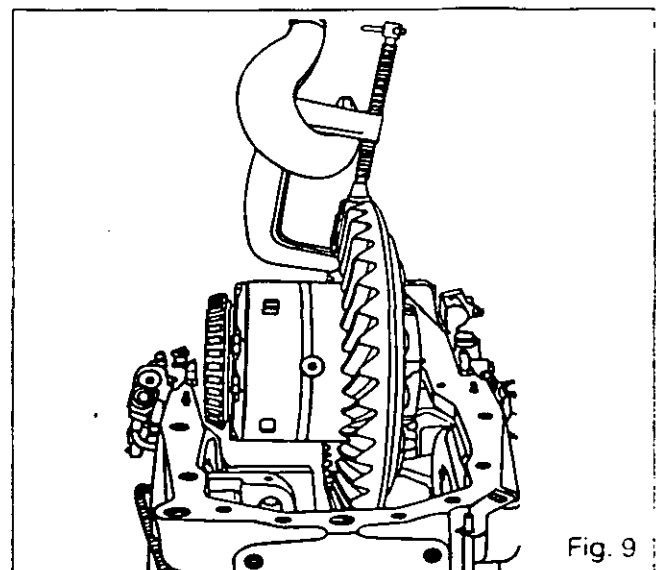

Fig. 9
37. Support the differential assembly using a hoist and a G clamp (Fig. 9).
38. Slacken the screws (2) alternately so as to release the spring (6) gradually.
39. Remove the carrier (9), the spring (6), the coupler (7) and the washer (11).
40. Remove the screws (26).
41. Remove the cover (25).
42. Withdraw the differential assembly from the housing (Fig. 9).